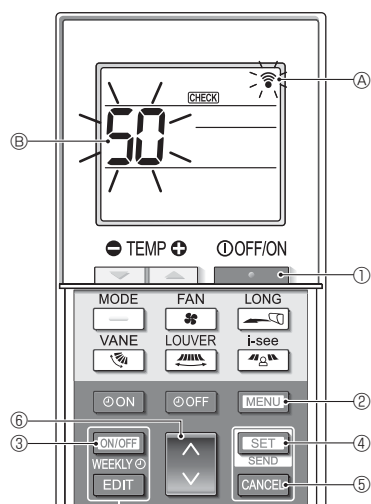

Fig. 6-3
1. Press the button ① to stop the air conditioner.
- * If the weekly timer is enabled (WEEKLY is on), press the button ③ to disable it (WEEKLY is off).
2. Press the button ② for 5 seconds.
- CHECK ④ comes on and the unit enters the self-check mode.
3. Press the button ⑥ to set the displayed number ⑤ to "50".
- While pointing the wireless remote controller toward the receiver, press the button ④. (The unit number blinks.)
4. Press the button ⑥ to set the unit number of the indoor unit. (Fig. 6-3)
- While pointing the wireless remote controller toward the receiver, press the button ④. (The mode number blinks.)
5. Press the button ⑥ to set the mode number. (Fig. 6-3)
- While pointing the wireless remote controller toward the receiver, press the button ④. (The setting number blinks.)
6. Press the button ⑥ to select the setting number. (Fig. 6-3)